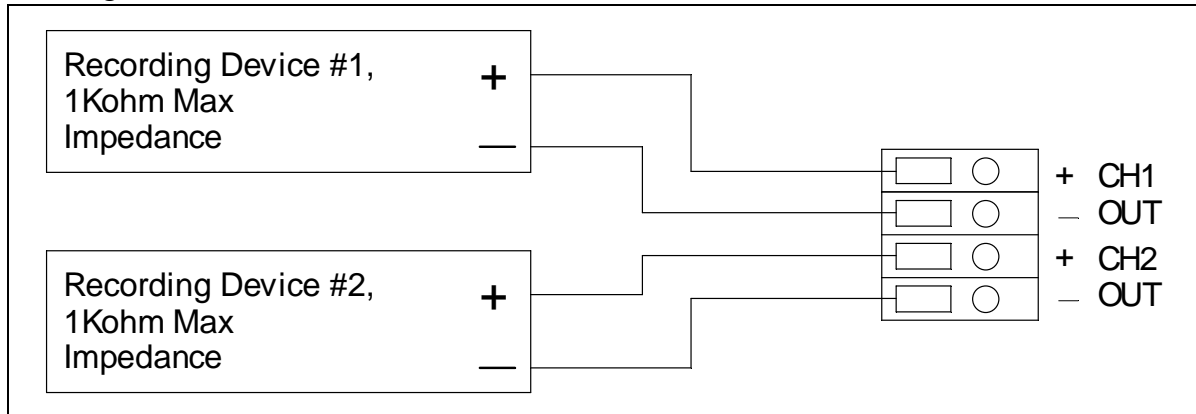

Figure 12. Recorder Output Wiring
4. Connect the wires from the recording device to the recorder output terminals as shown in Figure 12.